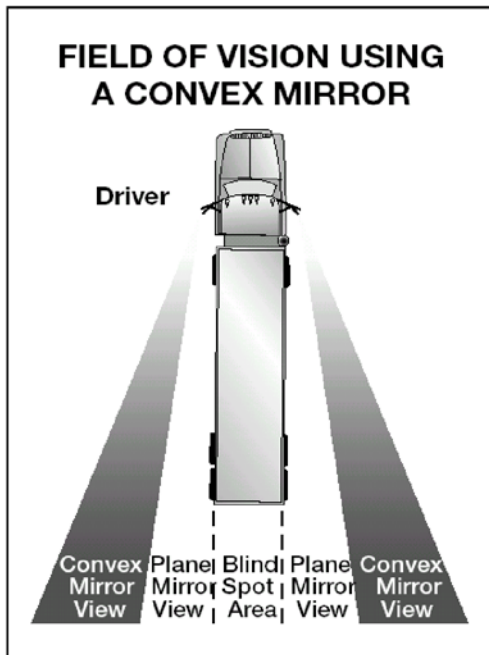

Figure 2.7
- Many large vehicles have curved (convex, “fish-eye,” “spot,” “bugeye”) mirrors that show a wider area than flat mirrors. This is often helpful. But everything appears smaller in a convex mirror than it would if you were looking at it directly. Things also seem farther away than they really are. It's important to realize this and to allow for it. Figure 2.7 shows the field of vision using a convex mir-